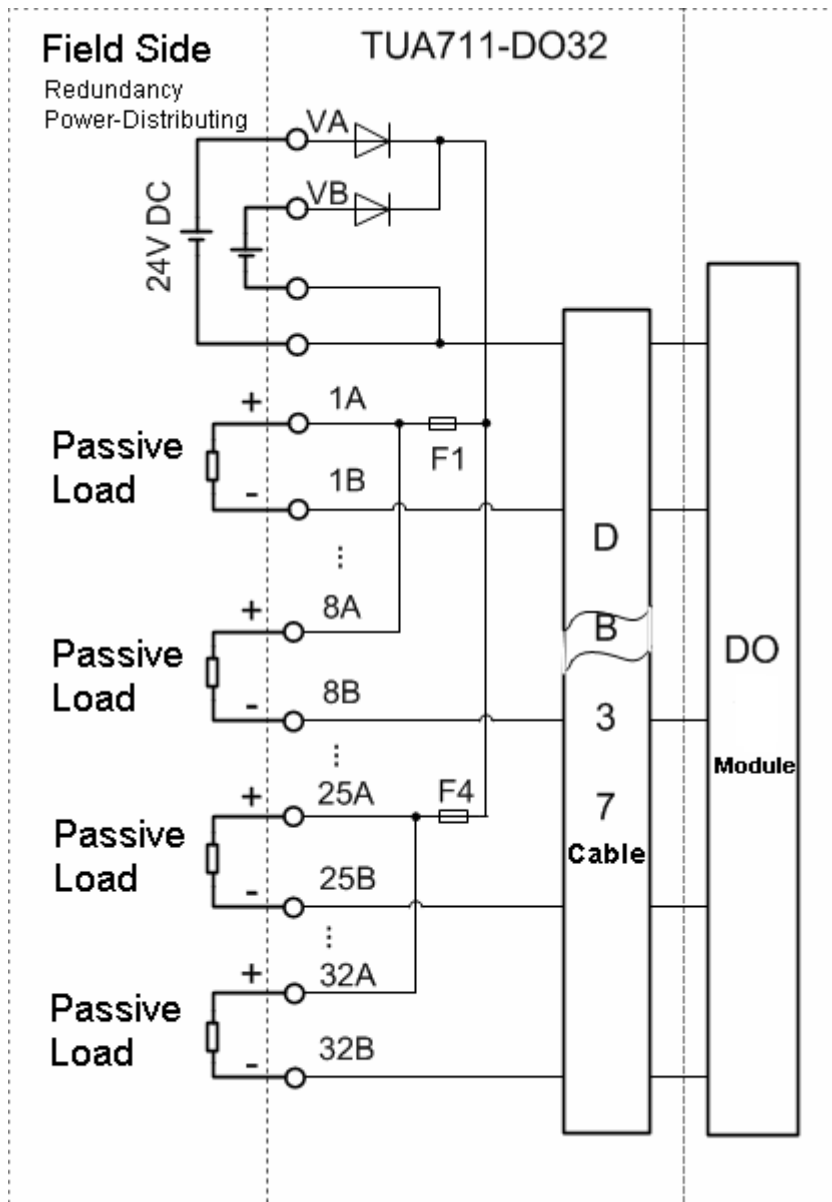

Figure 3-2 Circuit Wiring Diagram
The specific wiring method is shown in Figure 3-2
- Output signal terminals: marked as 1A, 1B, 2A, 2B, and so on, a total of 32 groups. A is + and B is -, and the loads are connected as shown in Figure 3-2.